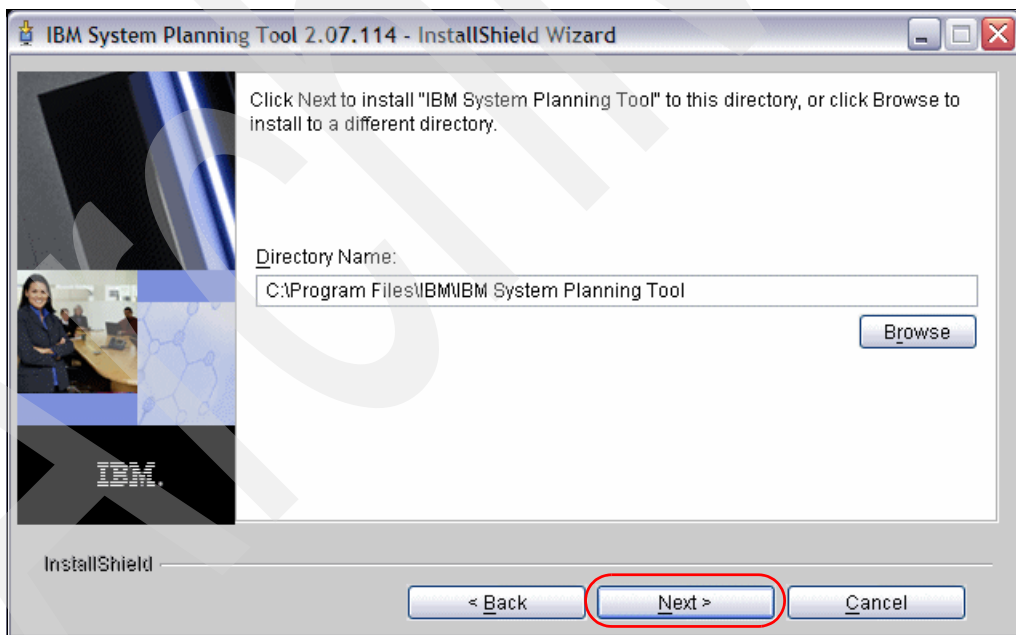

Figure A-14 Installation folder
7. With or without the uninstall process, the next window presents the location in which the new files are to be installed. We suggest that you accept the default folder, and then click **Next** to continue, as shown in Figure A-14.